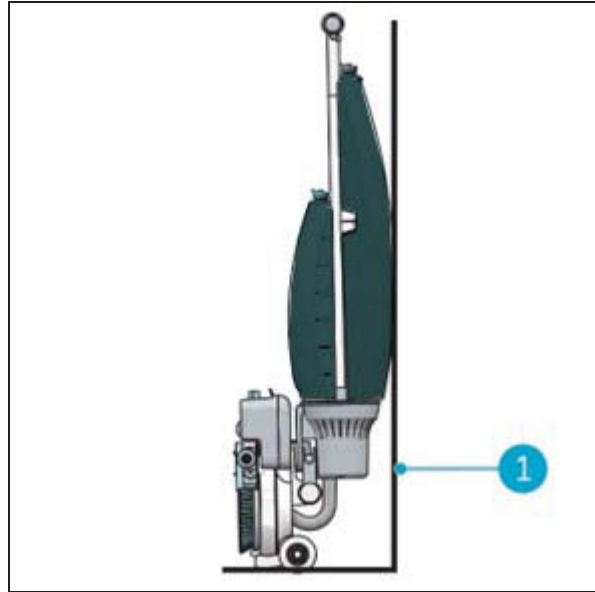

Figure 24
3. Store the i-mop® Lite close to a wall (Figure 24, pos 1) with the handle pointing towards the wall and the brushes facing away from the wall.